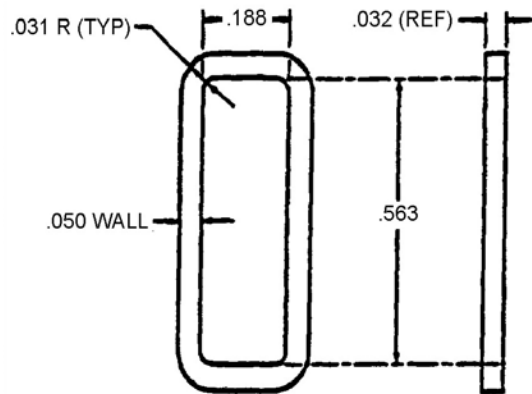

Figure 38. GC21E1 Loop, Strap Fastener
53. GE21E1 LOOP, STRAP FASTENER. A loop can be used as an aid to hold the clamp closed (Figure 38).